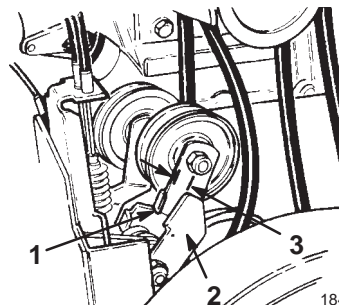

Figure 30
**Remarque :** With the lever released, there should be at least 1/8 in. (3 mm) clearance between the tab on the impeller idler arm and the brake arm (Fig. 30).